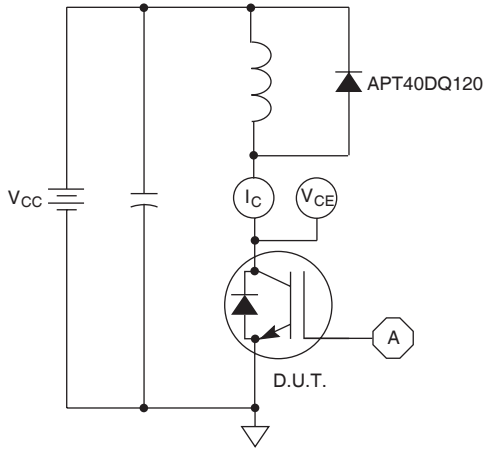

Figure 21, Inductive Switching Test Circuit
- ⑤ E_{on2} is the clamped inductive turn-on energy that includes a commutating diode reverse recovery current in the IGBT turn-on switching loss. (See Figures 21, 22.)
- ⑥ E_{off} is the clamped inductive turn-off energy measured in accordance with JEDEC standard JESD24-1. (See Figures 21, 23.)
- ⑦ R_G is external gate resistance, not including R_{Gint} nor gate driver impedance.
- ⑧ Continuous current limited by package lead temperature.